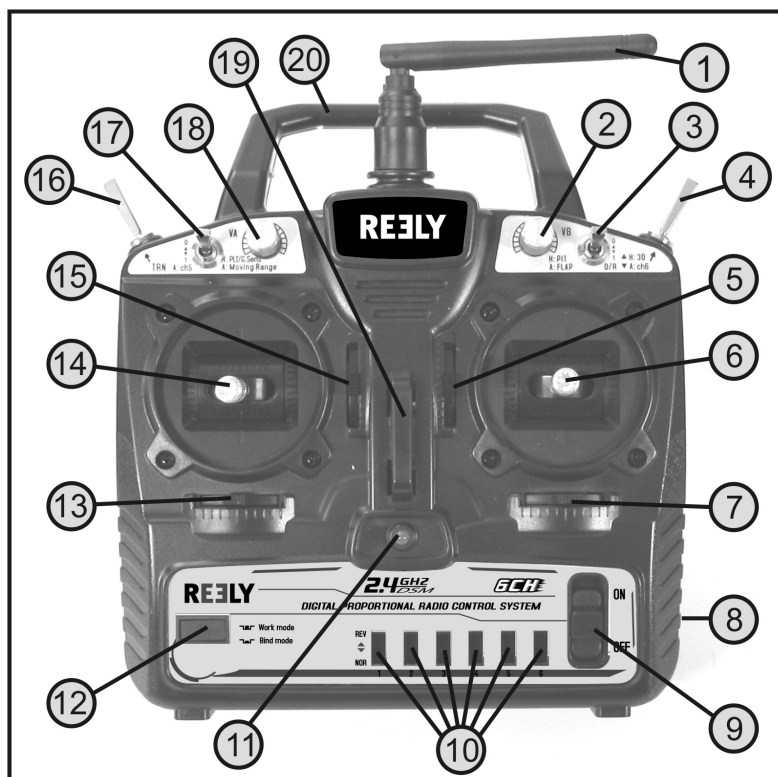

Figure 1
Angle the transmitter's aerial (see figure 1, item 1) to the side, so that the aerial is at a 90° angle to the connection line remote control/model. This is how you will achieve best signal transmission.
When new batteries or freshly charged rechargeable batteries have been inserted, check the position at the toggle switches. All switches must be in the front position „0“. The control sticks for the pitch function (see figure 1, item 14) must be pushed to the bottom-most position.
Then turn on the transmitter with the on/off switch (see figure 1, item 9). For this, push the switch from the lower position „OFF“ to the upper position „ON“. The green LED display (see figure 1, item 11) indicates the power supply of the transmitter.
If the LED display is lit green after switching on and flashes red every 4 seconds, the toggle switch for the 3D setting (see figure 1, item 4) is not in the correct position. In this case, the drive motor would not start if the flight battery is connected to the helicopter and the control stick for the pitch function is pushed forward.
If the LED display flickers red after a brief time, the switch for the binding function (see figure 1, item 12) may have been pushed by accident. In this case, switch off the transmitter without delay, deactivate the switch and then take the transmitter into operation again.